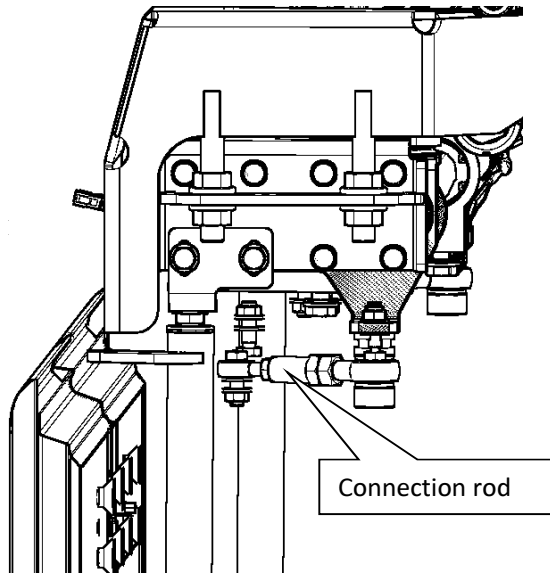

Figure 1.13: Adjusting side seal
2.	The end stop of the door shaft should touch the door shaft support when door is open (See figure 1.13).